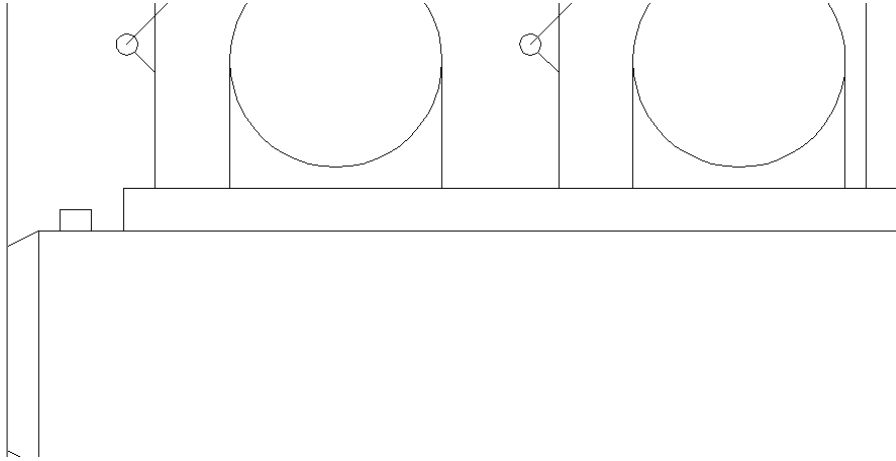

Figure 8-2: The final view. Your view may be somewhat different.
5. Click the right arrow on the horizontal scroll bar three times. The drawing moves slightly to the left each time. Your drawing should look something like Figure 8-2. You may have a different view if you chose slightly different pan points.